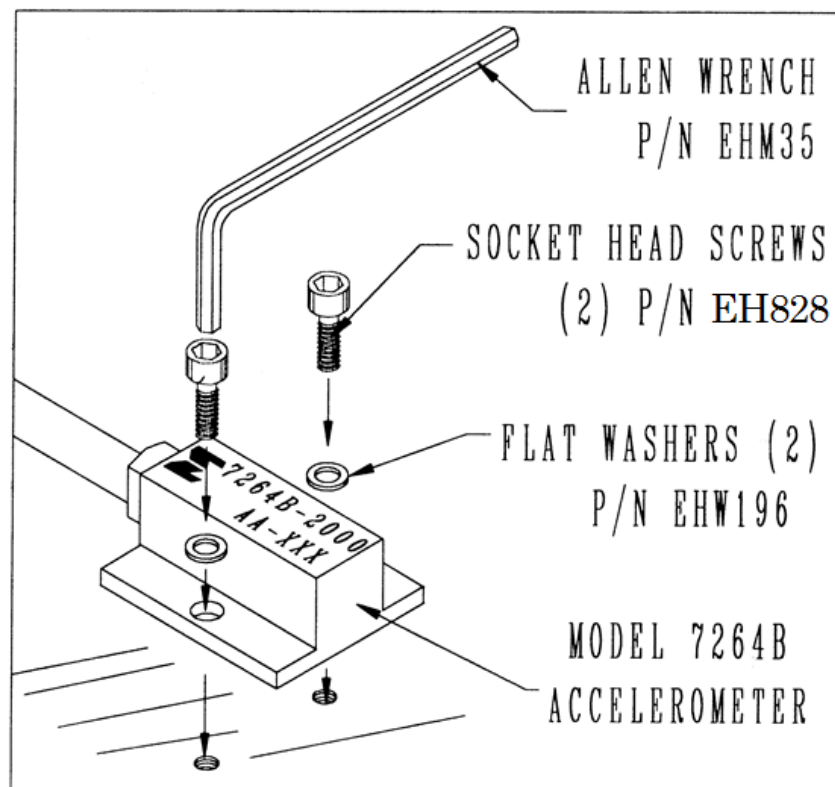

FIGURE 1 - Installation of Model 7264B Accelerometer
2. Do not cement the unit to the mounting structure. Use the supplied mounting washers and screws, as shown in Figure 1.